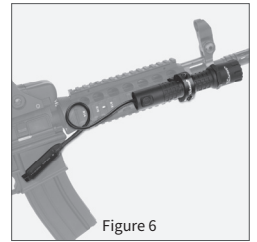

Figure 6
7. Test fit the rail mount on to the Picatinny or Weaver rail of the long gun. Determine the desired location of the RPS (Figure 6) on the long gun. It can be attached to any clean, dry, flat surface. Figure 6 is one example; choose the best location for your weapon's configuration and personal preferences.
12. Peel off the paper backing on the other side of the Velcro® adhesive strip and press it onto onto the clean area of the long gun. (Figure 6).